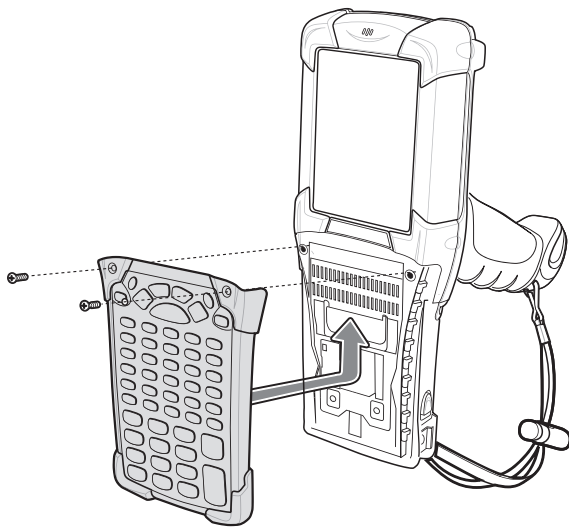

Figure 2-2 *Installing the Keypad*
6. Replace the keypad and re-attach using the two screws (see Figure 2-2 on page 2-5).